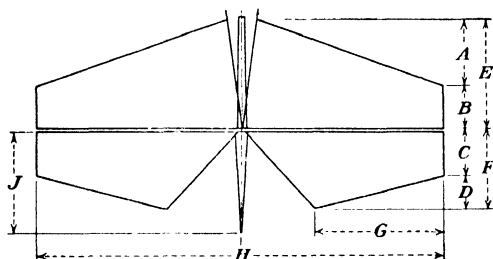

Fig. 96.—Horizontal stabilizers and elevators.
- 1.** Measure all dimensions on the airplane tail in Fig. 96, to the nearest 32nd.